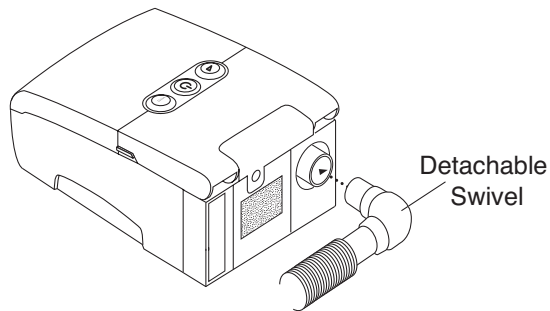

FIGURE 3-3 CONNECTING THE FLEXIBLE TUBING
1. Connect the flexible tubing to the air outlet on the back of the device, as shown in Figure 3-3. You can use the optional, detachable swivel that is provided with your device and already attached to the tubing (shown in Figure 3-3), or you can remove the swivel and connect the tubing directly to the air outlet.